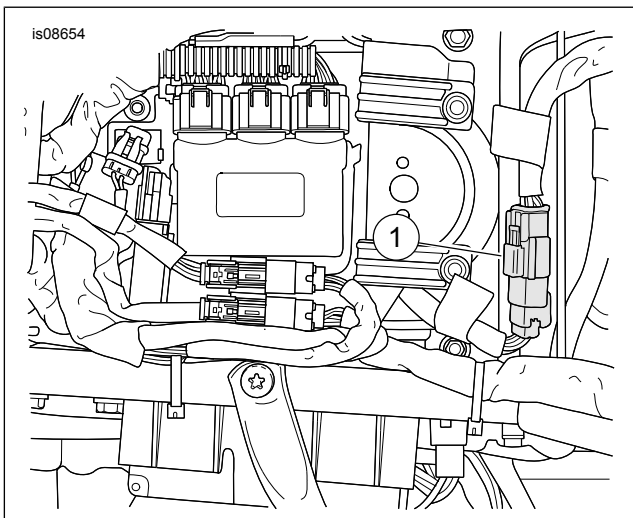

Figure 2. Run/Brake Light Connector [7A]
15. See Figure 2. Disconnect harness connector (1). Connect kit wire harness to connector (1). Connect OE plug to kit connector.